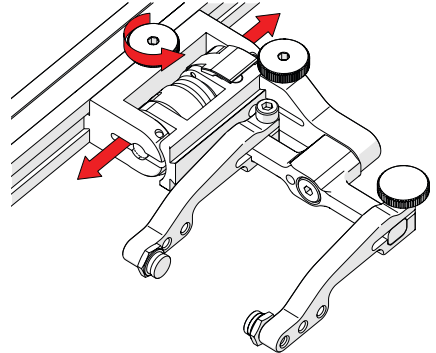

Fig. 70 - Adjust on frame bar
- 2.** Use the probe holder adjustment knob to position the probe holder along the frame bar (*Fig. 70*).